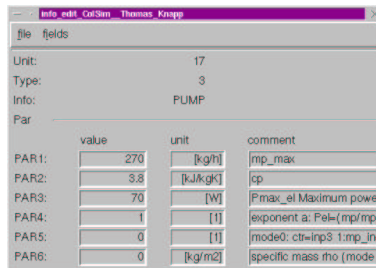

Figure 4.1: The `info_edit` window, showing the pump's parameters.
3. The `info_edit` window, shown in Fig.4.1 with a pumps parameters, displays the part of the information about a unit which is contained but not visible in the xfig graphics of the system: